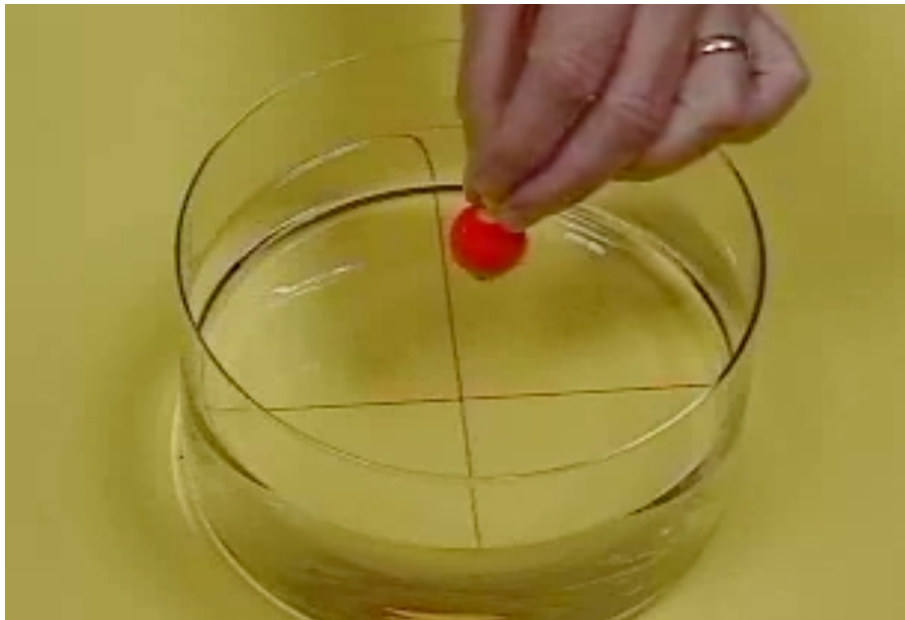

Fig. 1- Screen shot from movies.
1. Consider the microfluidic circuit in Fig. 1(a). Suppose that the liquid that is pushed is water ($\mu = 10^{-3}$ Pa.s). What is the highest Reynolds number in this circuit? Can we talk about Stokes flows everywhere in the system? The dimensions of each element are the following: